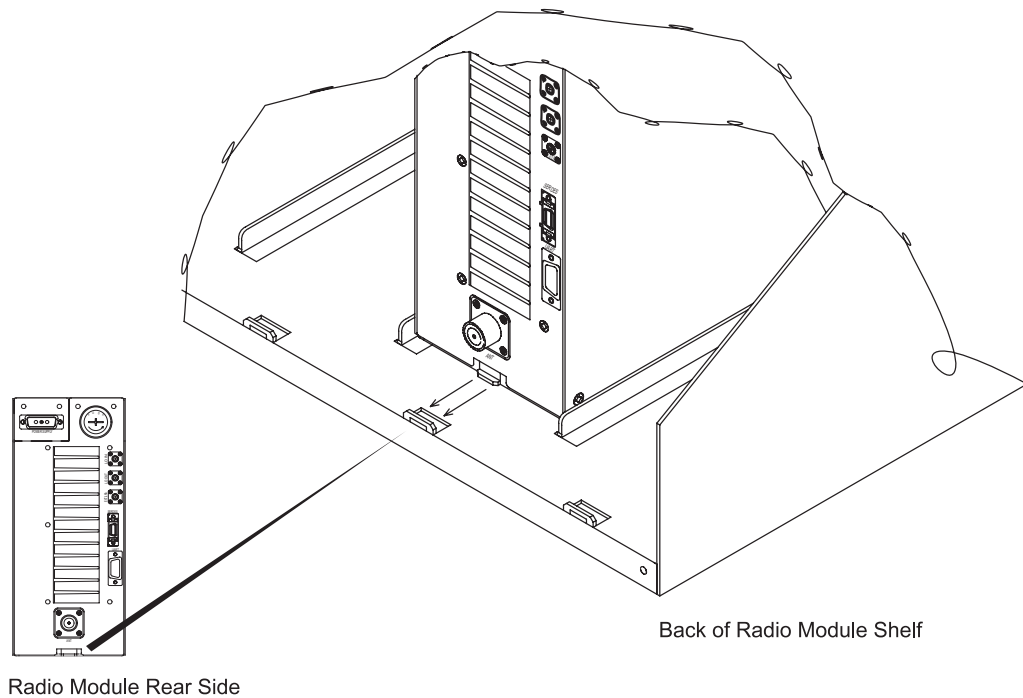

Figure 4.1 Radio Module Insertion
- 4 Ensure that the radio module is anchored into the guide shoe in the back of the radio module shelf. Figure 4.1 shows how to anchor the radio module into the guide in the back of the radio module shelf.